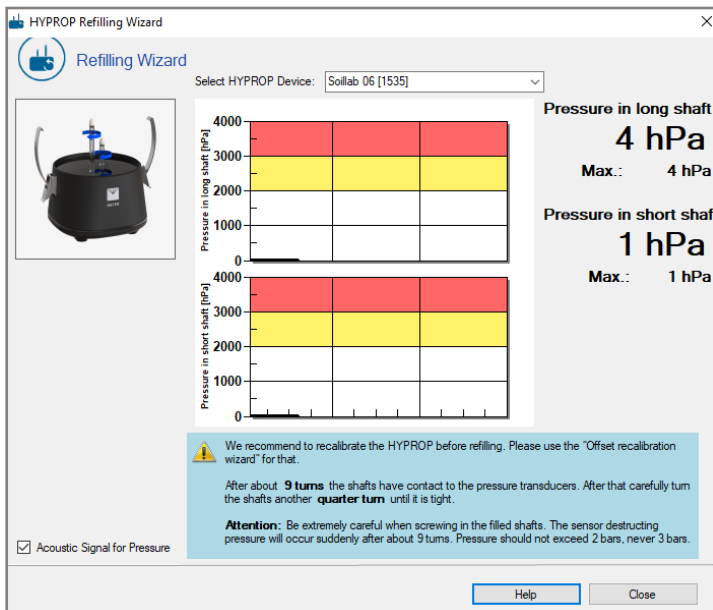

Figure 38 Refilling - connected device
4. Open the window Refilling Wizard by selecting the respective icon and choose the desired device to process by using the dropdown menu (Figure 38).